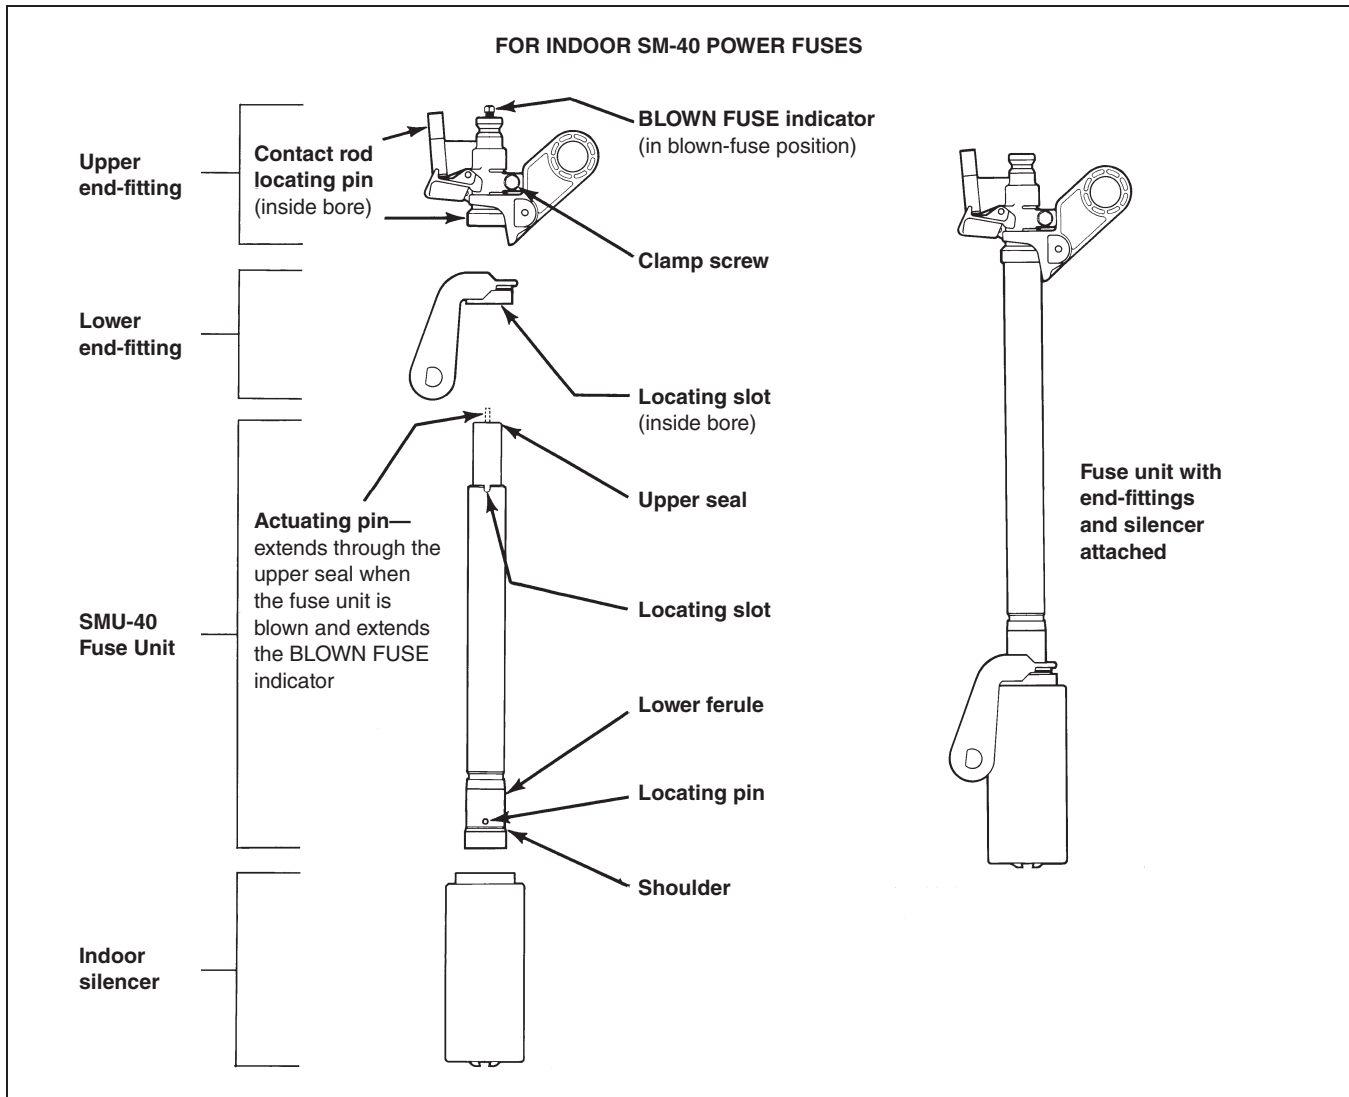
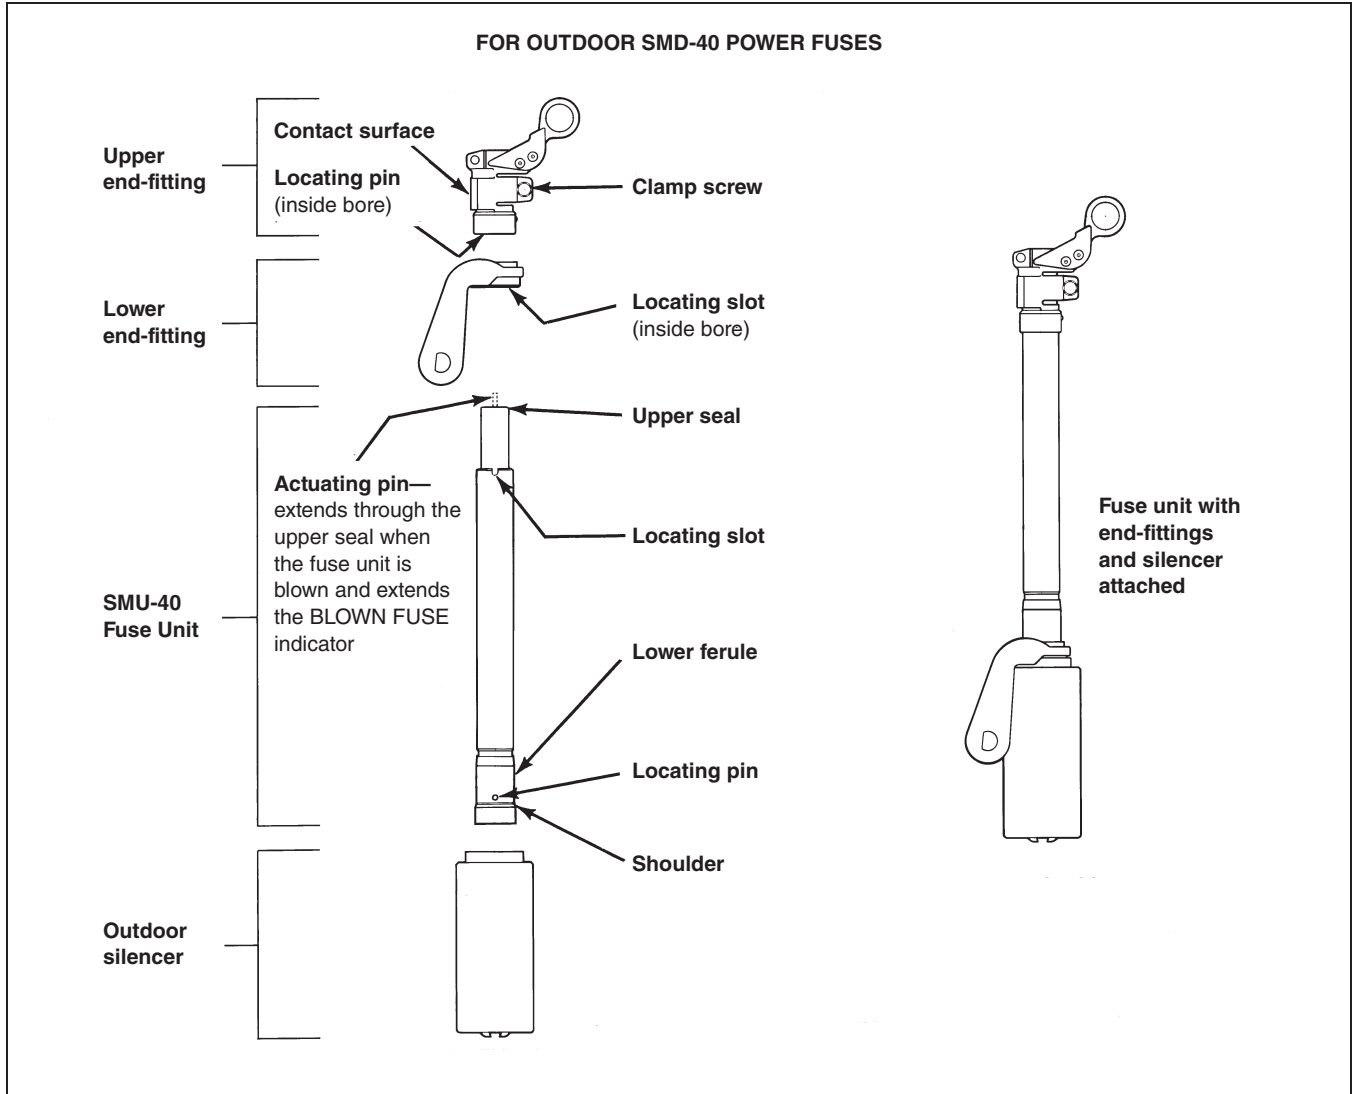

Figure 1. SMU-40 Fuse Unit with end-fittings and silencer for use in outdoor SM-40 fuse mountings.
Figure 2. SMU-40 Fuse Unit with end-fittings and silencer for use in outdoor SM-40 fuse mountings.
The following instructions cover installation and replacement of SMU-40 Fuse Units used with indoor-distribution SM-40 Power Fuse mountings or with outdoor-distribution SMD-40 Power Fuse mountings. Note that appropriate end-fittings must be attached to the fuse unit before it can be installed in a mounting. Note further that, while the SMU-40 Fuse Unit can be installed in each of the aforementioned mountings, the end-fittings for use in an SMD-40 mounting are dissimilar and are not interchangeable with the end-fittings for use in SM-40 mountings. See Figure 1 on page 8 and Figure 2 on page 9.
- STEP 2.** Attach the end-fittings and silencer to a new fuse unit, following the instructions given on pages 6 and 7 and illustrated in Figure 1 on page 8.
- STEP 2.** Attach the end-fittings and silencer to a new fuse unit following the instructions given on pages 6 and 7 and illustrated in Figure 1 on page 8.